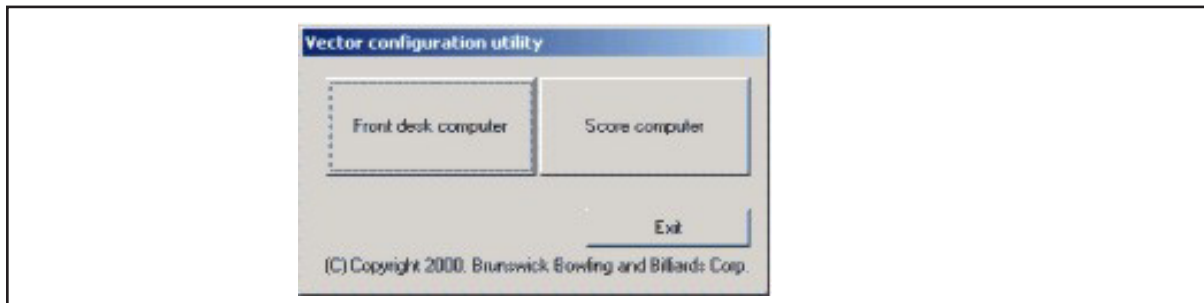

Figure 18. Config.exe screen
2. Select the Score Computer button. Refer to *Figure 18*.